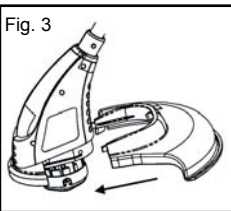

Fig. 3
1. Place the cutting guard onto the trimmer head. (Fig. 3)